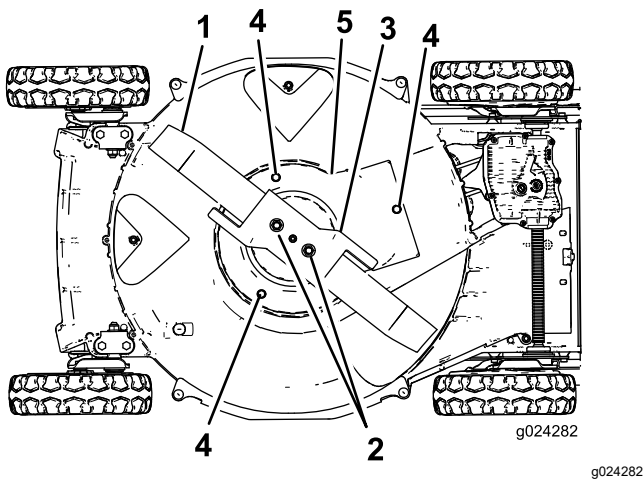

Figure 39
6. Remove the 2 blade nuts, the accelerator, and the blade (Figure 39).
7. Remove the screws that secure the blade-brake-clutch shield to the mower housing (Figure 39).